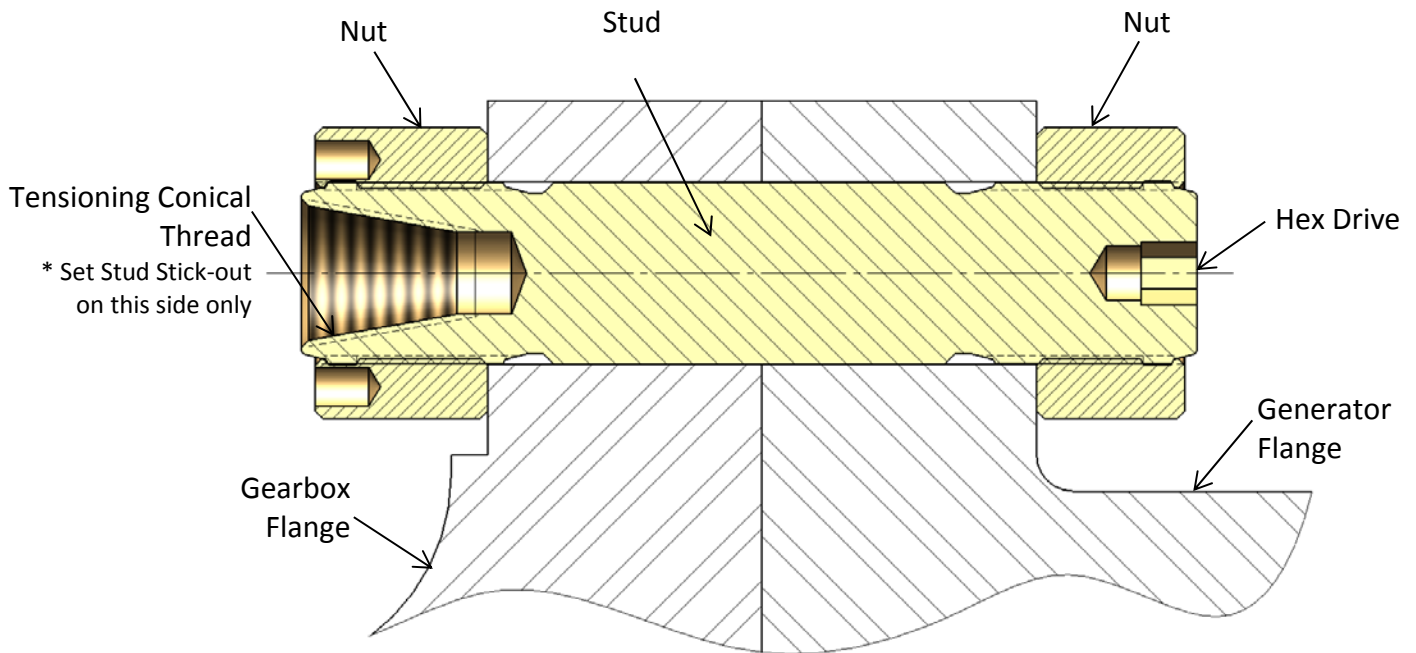

Figure 1 – Cross-section View of Gearbox to Generator Bolted Flange Connection
2. Slide the stud and cylindrical nut assembly into the flange as shown in Figure 1.